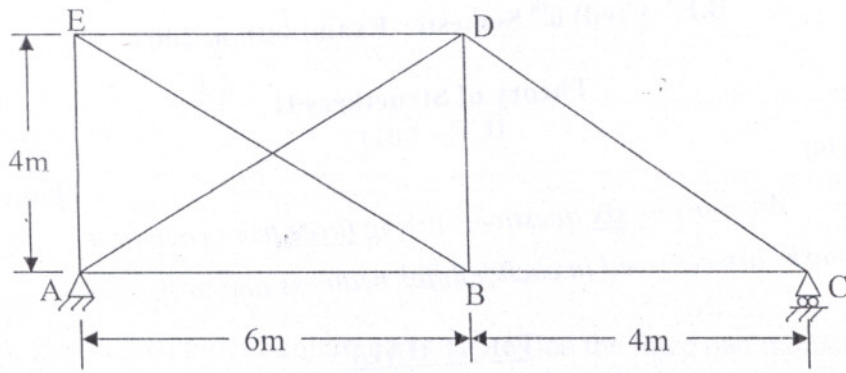

Fig. Q. 1
Q.1) In the plane braced frame shown in Fig. Q.1 the members have the same cross-sectional area of  $10 \text{ cm}^2$  and are made of the same material. The member AD in the frame was initially short by 0.25 cm. Determine the force in each member.